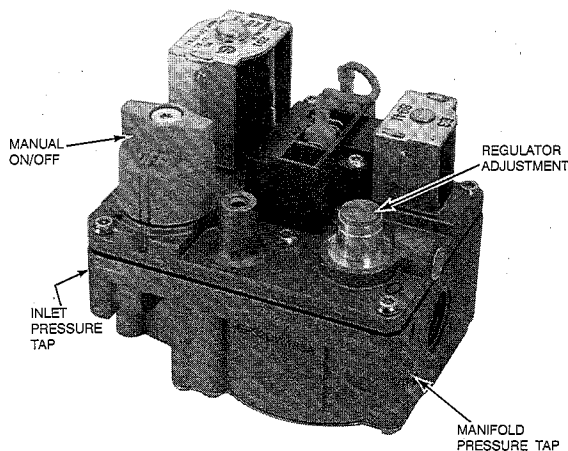

Figure 14—Redundant Automatic Gas Control Valve
- (1.) Remove regulator adjustment seal cap. (See Figure 14.)